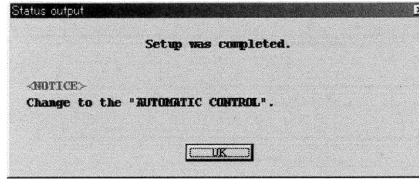

Fig.42
- ⑦ When the previous settings are replaced with the new settings just entered in response to clicking on "OK", a message box as shown in Fig. 42 appears. Clicking on "OK" button at this point completes the setup.